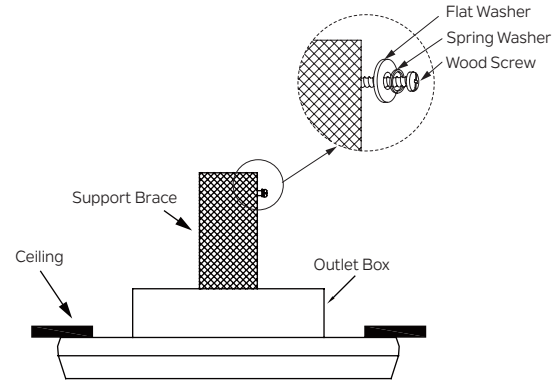

Fig. 11
Step 1. Slip the spring washer, then the flat washer onto the wood screw, then drive the wood screw into the side of the brace that holds the outlet box. Leave 3mm (1/8") of space between the support brace and the flat washer. (Fig. 11)